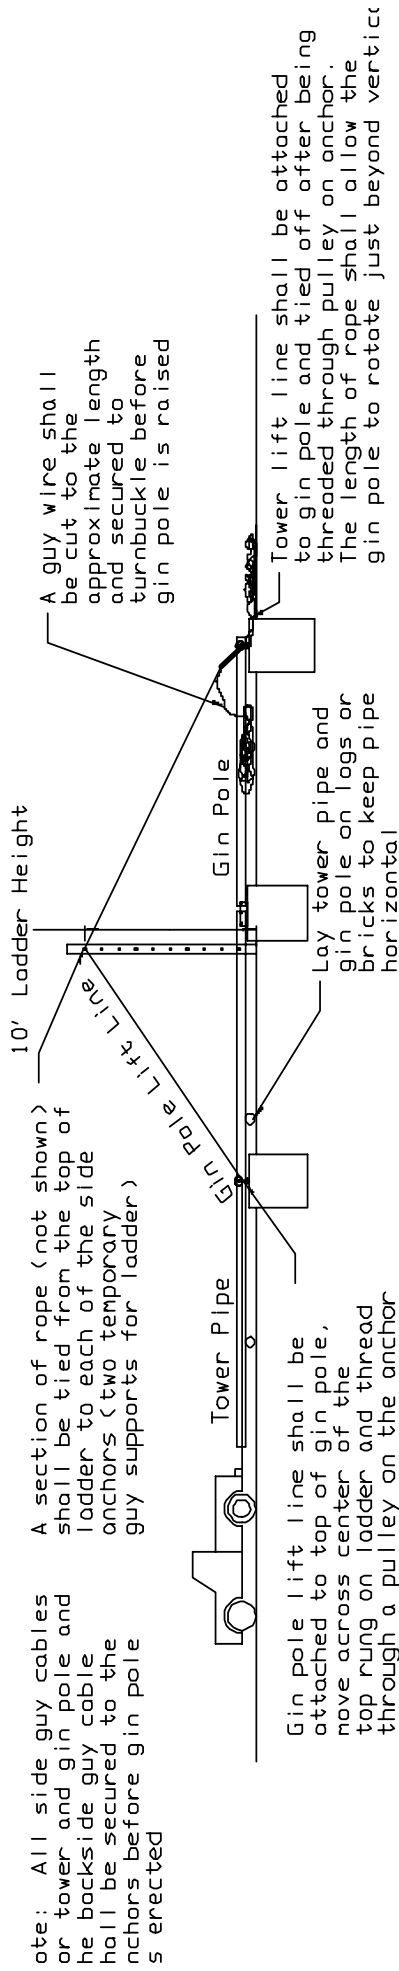

Figure 10
When you finish assembling the gin pole and tower pipe the installation should look like Figure 10. Remember to have on hand wood pieces or bricks to support the pipe sections 7 inches above ground. This is important since you do not want to be moving the tower and lift-pipe sections around. They are very heavy! Remember to have help around to move the pipes into place. See figure 2 and 10 for details!
2. The first step to raising the tower is to raise the gin pole. The gin pole for the 42' 175 tower weighs over 300 pounds so a secondary gin pole is necessary to raise the gin pole. One option for this secondary gin pole is to use a 10' ladder with a minimum rating of at least 250 pounds (see Figure 10). Do not use a stepladder for this because it must be able to rotate on its base. The ladder should straddle the tower pipe and be located near the tower base. An extension ladder with the proper rating should work just fine. The ladder should be given side-to-side support by tying a rope from the top of the ladder to each of the side anchors. This rope should have a minimum breaking strength of 4000 lbs. These two ropes will prevent the ladder from falling to either side during the gin pole erection. If a ladder is not available, then an A-Frame can be built out of 2x4s (see Figure 15).
4. Connect the gin pole lift line to one of the turnbuckles on the gin pole. The minimum breaking strength for this rope must be 4000 lbs. The gin pole lift rope is then run across the top rung on the ladder before it goes through a pulley connected to the anchor. This pulley must be rated for at least 3000 lbs. The end of this rope should be attached to the bumper on the vehicle raising the gin pole. An alternative to a vehicle is to use an appropriately sized winch connected to the anchor (see Figure 10).